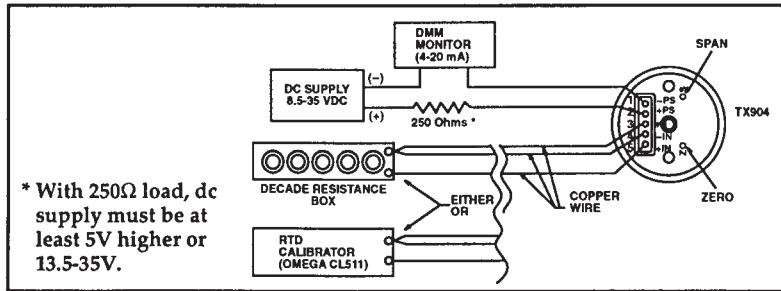

Figure 3-1 TX904 RTD Calibration Set-Up
3.2 Calibration Procedures (Refer to Figure 3-1)
Connect the calibration equipment according to Figure 3-1. Standard copper test leads are used with RTD instrumentation.